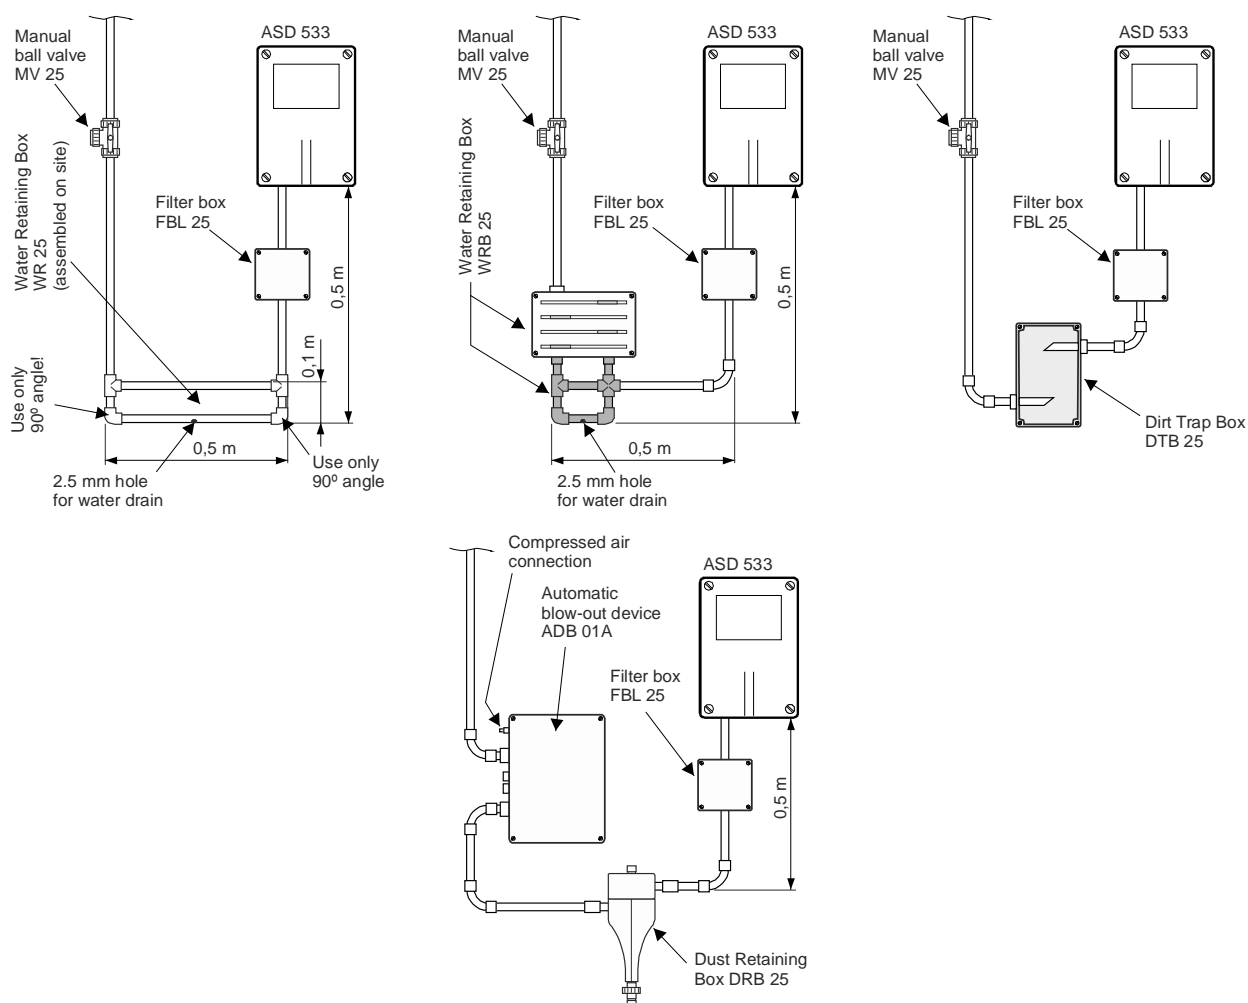

Fig. 29 Mounting accessory parts
- The mounting positions for the water retaining box, dirt trap box and dust retaining box must be observed as indicated in **Fig. 29**.